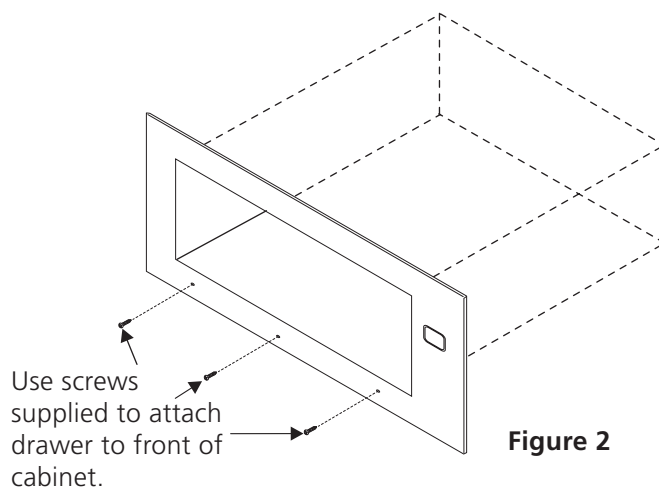

Figure 2
3. Remove the drawer as instructed in the Use & Care Guide and secure drawer housing to cabinet using the 3 nickel-plated screws supplied (see Figure 2). **Do not overtighten screws.**